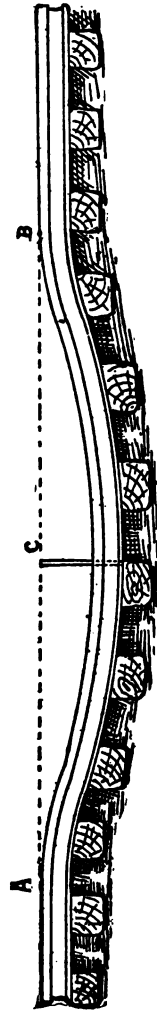

FIG. 13.
**RULE:**—Set two stakes, *A* and *B*, close to the track rails and level with their top surface at each end of the sag, as shown in Fig. 13. Then set a third stake *C* at the middle of the sag and in line with *A* and *B*, and drive it down until the top of it is level with the tops of the outer two stakes. You can ascertain whether this is the case by sighting over *A* and *B*. Measure the height of stake *C* above the ground and multiply it by the distance in feet from *A* to *B*, and again multiply the product by 14 or 16 feet for the width of the embankment. This will give you the contents in cubic feet and dividing the whole number of cubic feet by 54 will be the number of cubic yards of dirt or ballast which will be required to surface up the sag. If the sag is deeper than twelve inches an allowance of one foot in width for each foot in depth should be made up for the side slopes. An allowance of about one-sixth of the depth above level in some cases should be made on the middle of light sags when surfacing up. This can best be done by leveling a sight board the proper height in the middle of the sag and sighting the track to it from one end, and from that point sighting the rails to where the sag runs out at the other end. A sag, which has only been raised level with the track on each side of it, will soon become low again in the middle unless made very solid.